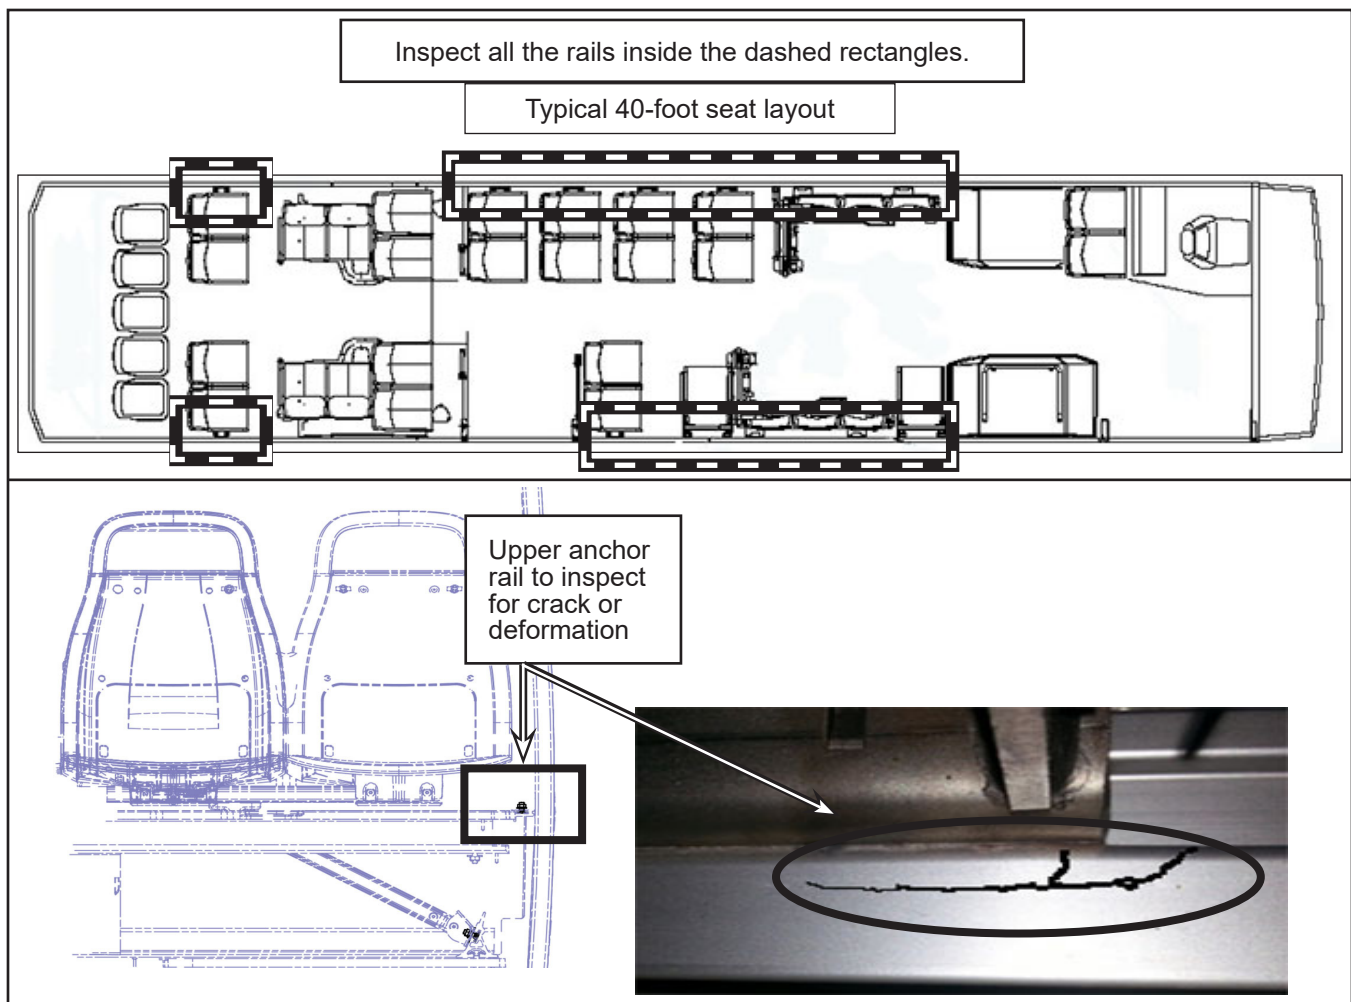

Figure 1 - Inspection of Seats' Upper Rail
- 1.1. Visually inspect all the upper anchor rails located between the front wheelhouses and the rear of the vehicle for any cracks and/or deformities. See Figure 1, for 60 foot vehicle inspect the front and rear section.